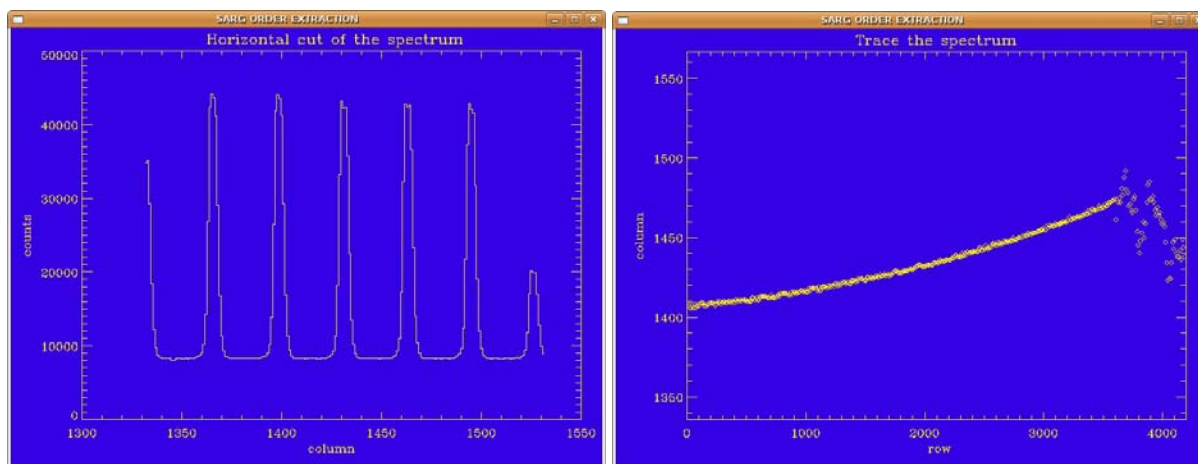

Figure 21. Left panel: horizontal cut of the echelle spectrum. Right panel the trace of the echelle order.
1. Selection of the aperture corresponding to the order to extract: a graphic window showing an horizontal cut of the spectrum (across the spectral dispersion) is displayed (see Figure 21 left panel). The columns displayed are 200 and the cut is the result of adding 10 rows. The observer has to select the aperture corresponding to the order to extract by clicking first on the left side and the on the right side of it. The two x coordinates define the size of the aperture and the position of two 5 pixels wide aperture to calculate the background.
2. Trace the echelle order: the procedure trace the order throughout the CCD, then it displays the results in a graphic window (see Figure 21 right panel).